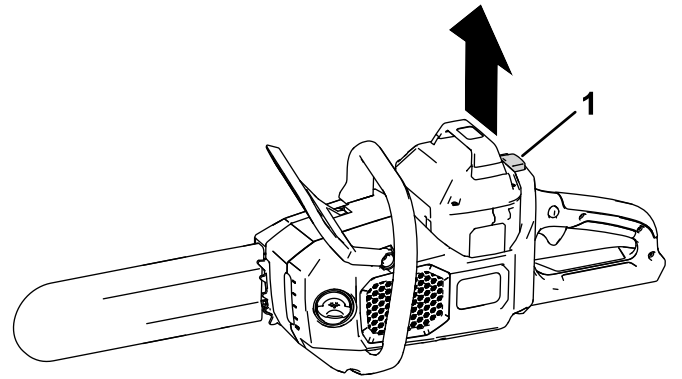

**Figure 22**
2. Align the tongue of the battery pack with the battery cavity in the chain saw (Figure 22).